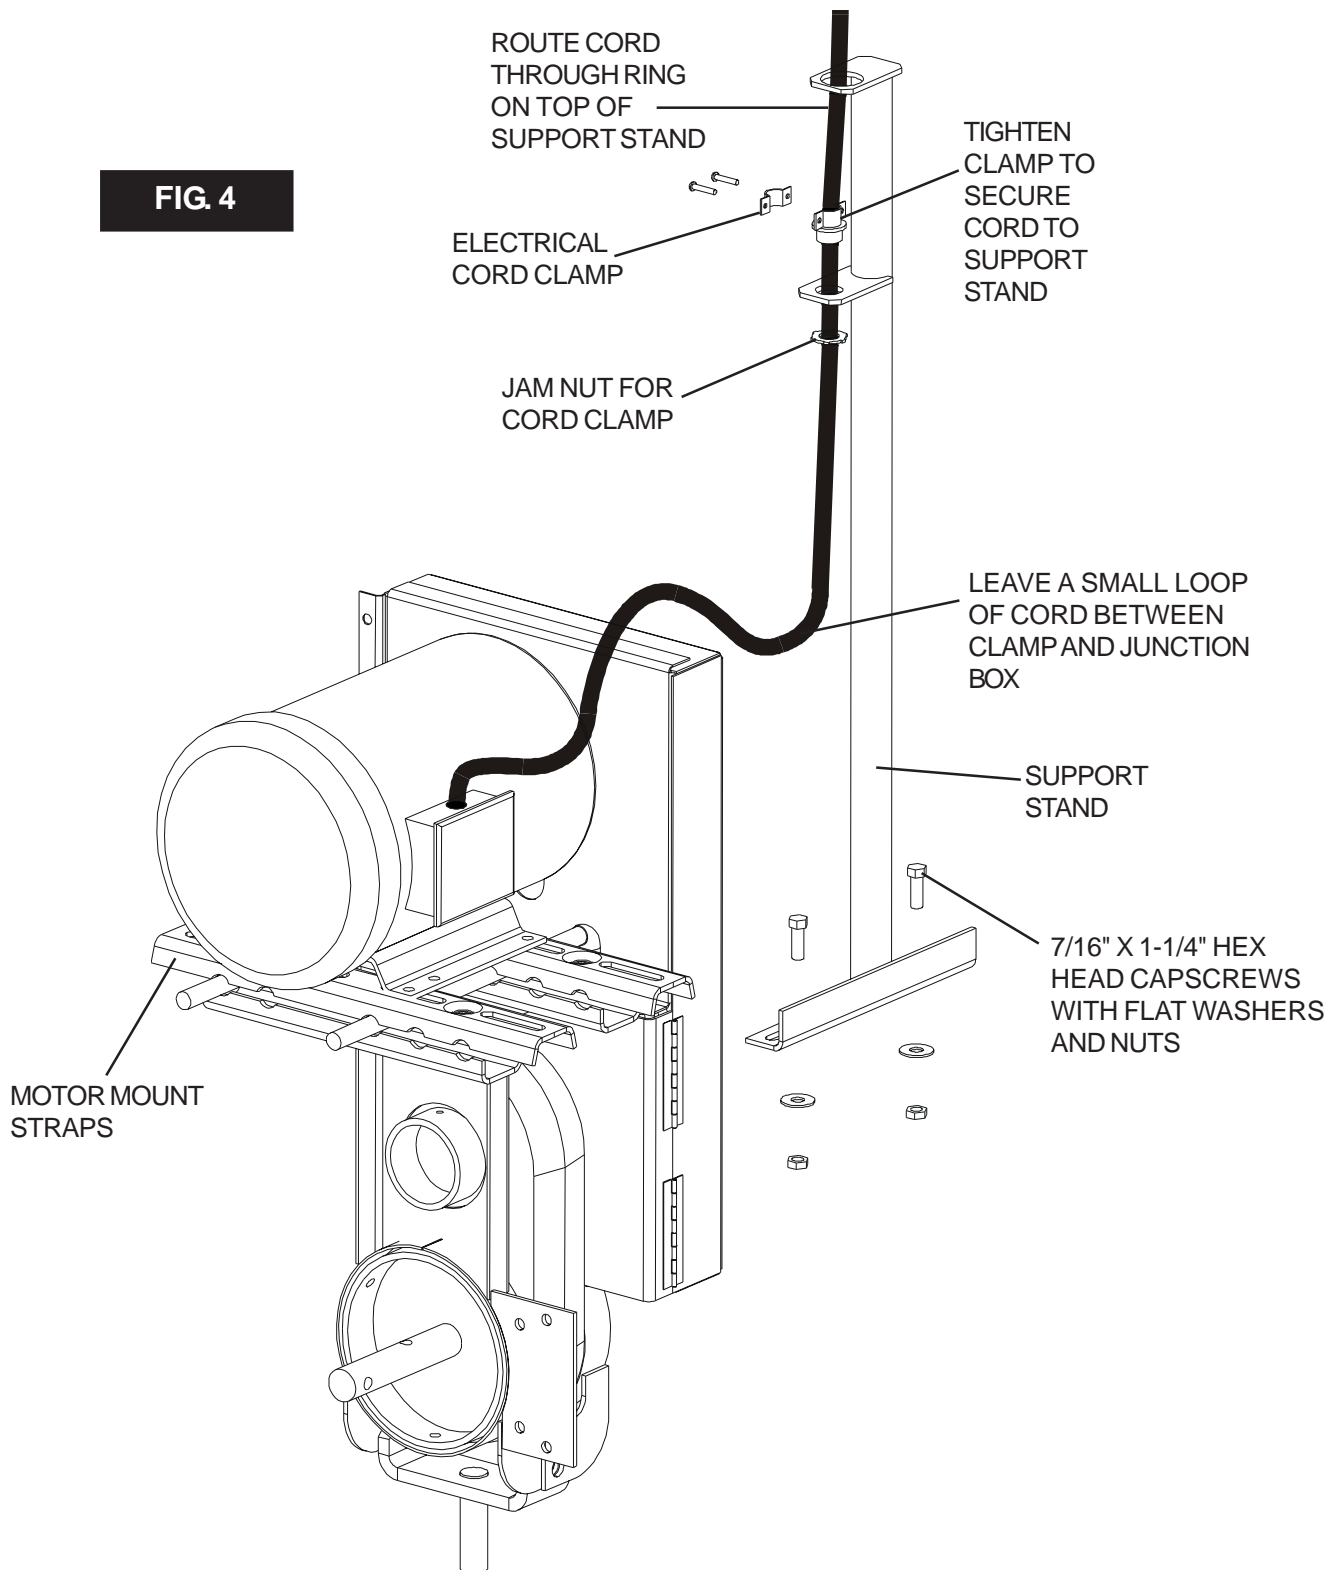

FIG. 4
1. Install support stand onto the motor mount straps using two 7/16" x 1-1/4" HHCS Bolts four 7/16" flat washers and 7/16" nylock nuts. (See Fig. 4)
2. Route the electrical cord from the motor through the support stand clamps. Leave a small loop of cord between clamps and motor. (See Fig 4)